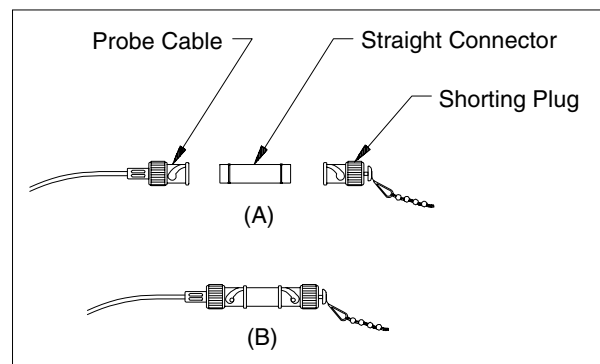
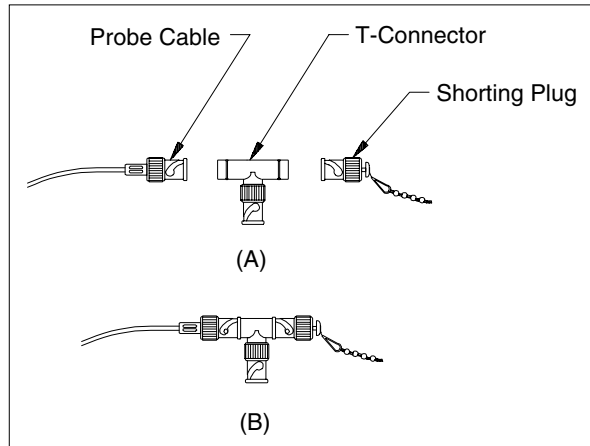

Figure D-3
Figure D-4
- ❑ If you have a one-piece probe (no probe support), you can short the cable with a BNC shorting cap, as shown in Figures D-3 and D-4. Figure D-3 shows a straight connector and Figure D-4 shows a T-connector. In both figures, View (A) shows an unassembled probe and View (B) shows an assembled probe.